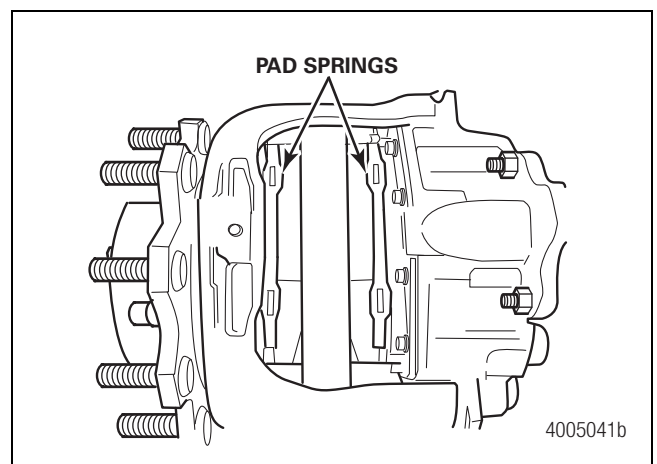

Figure 5.9
3. Remove the pad springs. Figure 5.9.